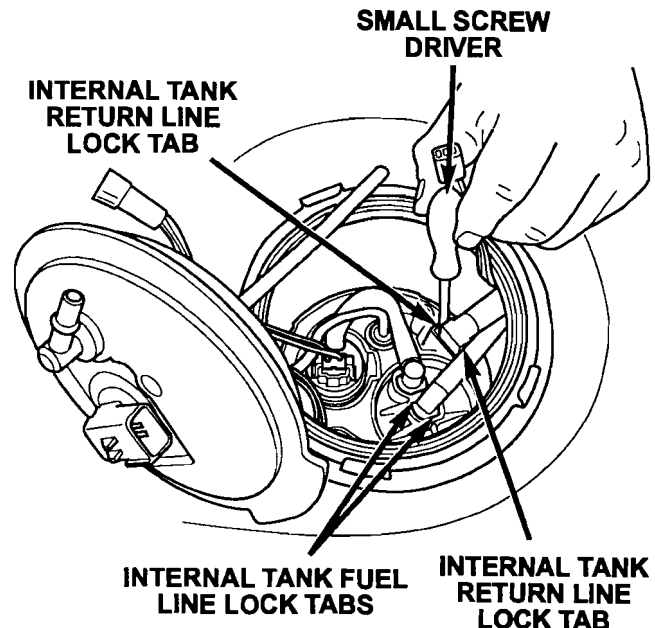

Figure 7
- Remove the internal tank return fuel line from pump module. Use a small screwdriver to pry the lock tab back and tilt the hose to one side. Pry the lock tab back on other side to release the hose (Figure 7).
- Connect the return fuel line first and then connect the supply fuel line to the new fuel pump module (Figure 7).